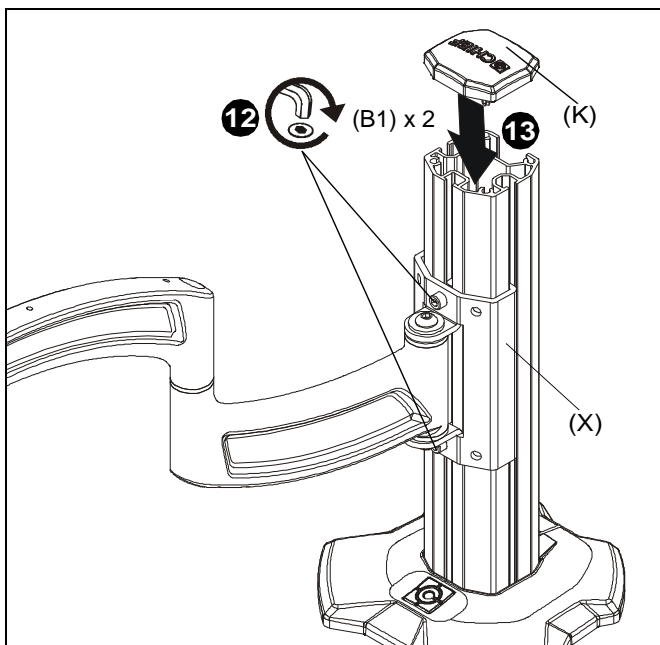

Figure 6
- 12. Tighten two 1/4-20 x 1/2" socket head carriage screws (B1) to secure column arm (X) at desired height. (See Figure 6)
- 13. Install column cap (K) to column (V). (See Figure 6)